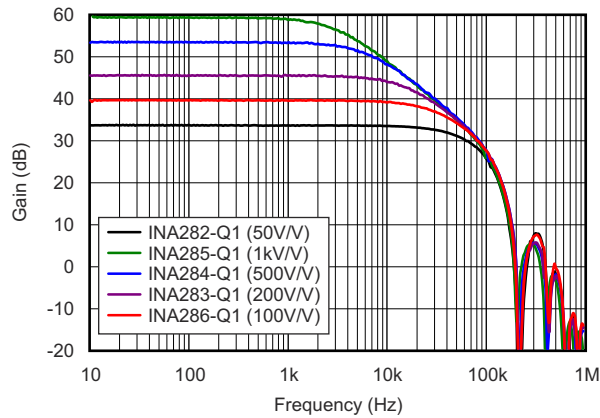

Figure 6-1. Gain vs Frequency
- (7) See typical characteristic graph Figure 6-1 and Section 7.3.2 in the Applications Information.